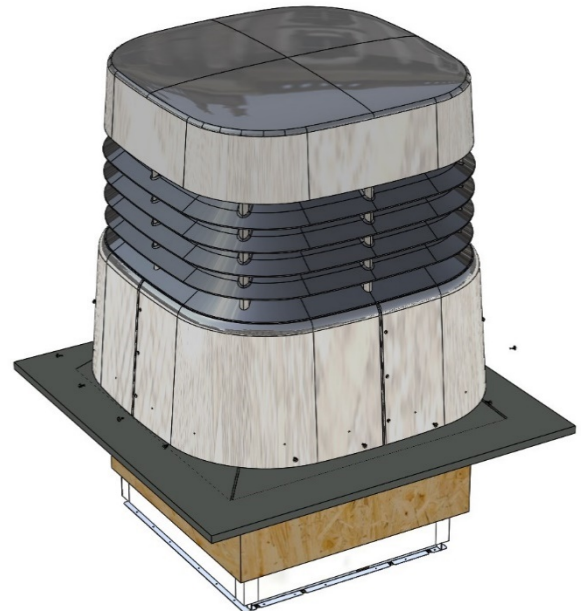

Figure 17 – Final cowl position.
3. Ensure it sits level on the heat exchanger – *see figure 17.*